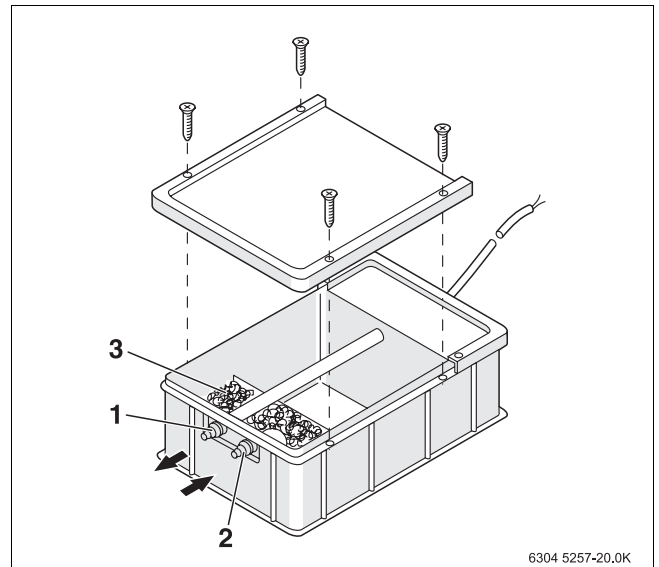

Fig. 22 Cleaning the neutralisation system
3.	Remove container cover from neutralisation system (→ Fig. 22)
6.	Screw container cover onto the neutralisation system (→ Fig. 22)